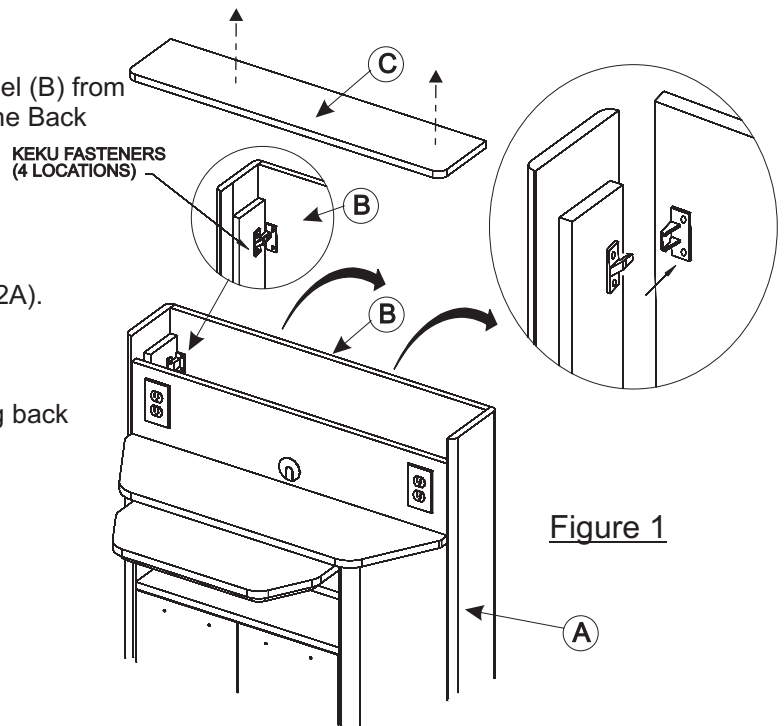

Figure 1
Remove the Removable Shelf (C). Remove the Back Panel (B) from the Cabinet sides (A) (see Figure 1) by pulling the top of the Back Panel from the rear of the cabinet to release the upper Keku Latches and continuing pulling back to release the lower Keku Latches (4 locations).